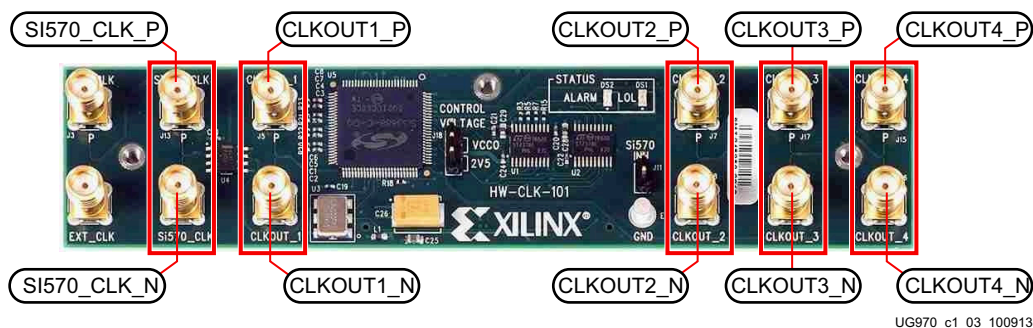

Figure 1-3: SuperClock-2 Module Output Clock SMA Locations
The SuperClock-2 module provides LVDS clock outputs for the GTH transceiver reference clocks in the IBERT demonstrations. **Figure 1-3** shows the locations of the differential clock SMA connectors on the clock module which can be connected to the reference clock cables.
**Note:** The image in **Figure 1-3** is for reference only and might not reflect the current revision of the board.